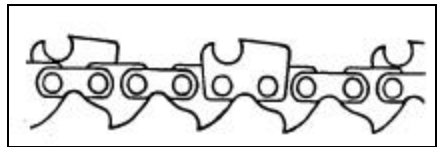

Fig 4-2-8 Standard Chain
19. There are various angles depending on the type of chain being used. The common standard chain (Fig 4-2-8) has: